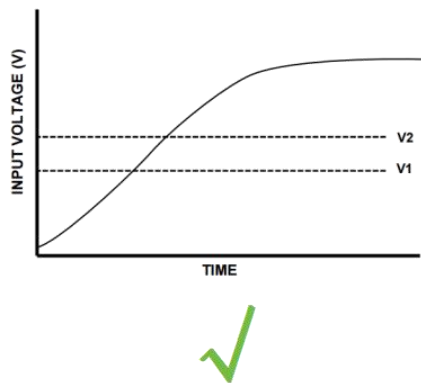
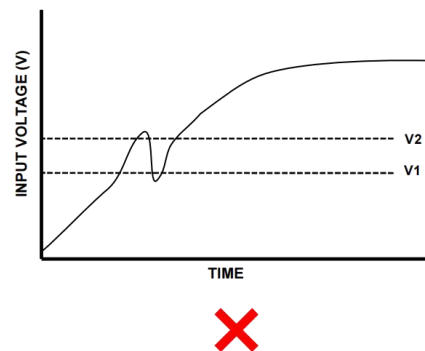

Figure 3-10 Monotonic power supply
Figure 3-11 Non-monotonic power supply
The iSMK must use the monotonic power supply shown in Figure 3-10 when powering on. If the non-monotonic power supply shown in Figure 3-11 is used, when the deviation is close to any threshold voltage, the non-monotonic slope may cause problems such as abnormal start of the driver, resulting in an error failure.
- In figure 3-10 and figure 3-11, V1 indicates 10V voltage, and V2 indicates 17V voltage.